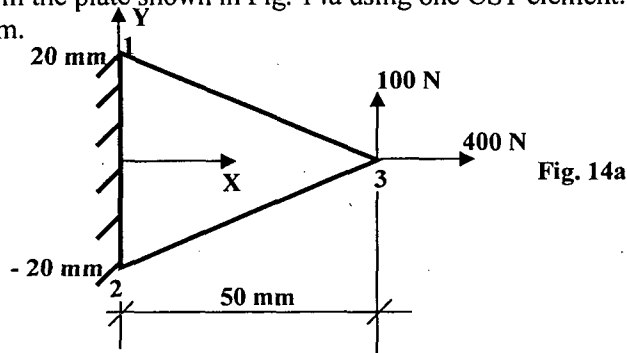

Fig. 14a
- 14 a) Find the stresses in the plate shown in Fig. 14a using one CST element. $E = 200 \text{ GPa}$, $\nu = 0.3$, $t = 10 \text{ mm}$. (16)